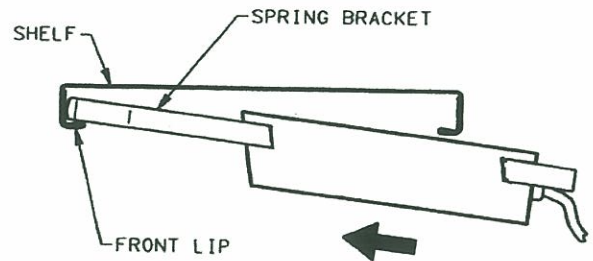

Figure 8
2. Rest front of spring brackets on inside of front lip of shelf. See Figure 8.